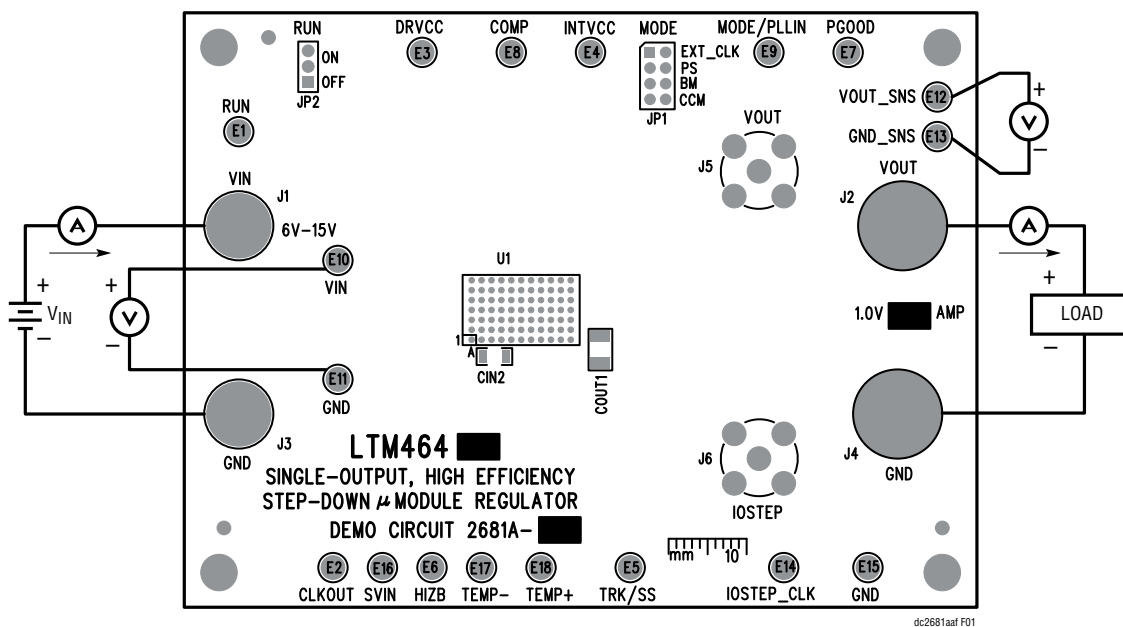

Figure 1. Measurement Setup of DC2681A-A
Demonstration circuit DC2681A-A is an easy way to evaluate the performance of the LTM4645EY. Please refer to Figure 1 for proper measurement equipment setup and follow the procedure below:
2. With power off, connect the input power supply, load and meters as shown in Figure 1. Preset the load to 0A and V_{IN} supply to 12V.